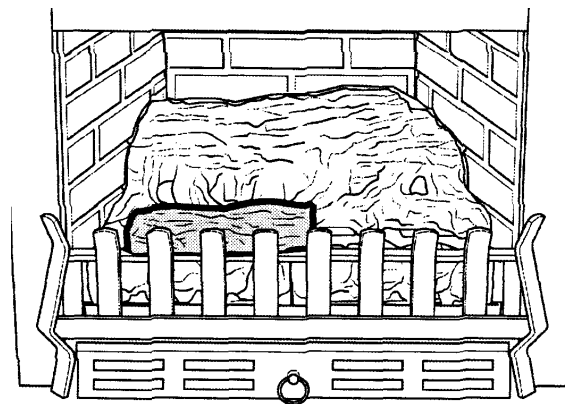

Figure 11 "A" log position
- Take the 'A' log and position as shown in figure 11, ensuring that it is pulled fully forward, on top of the cross member of the front iron.